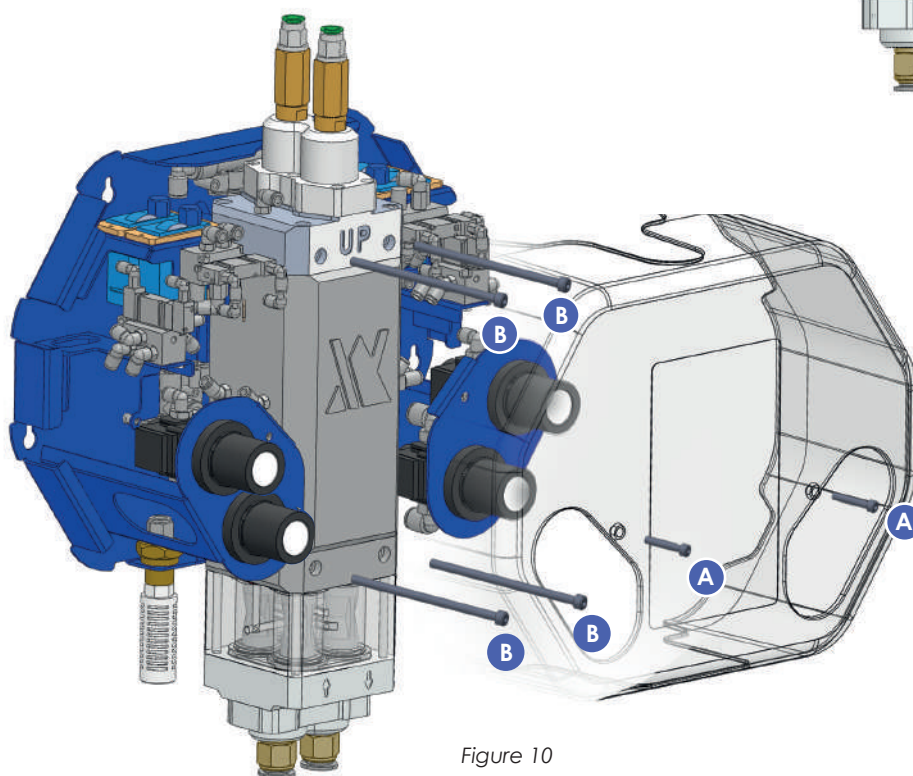

Figure 10
5. See figure 10. Remove the four screws (B) securing the pump assembly to the base.